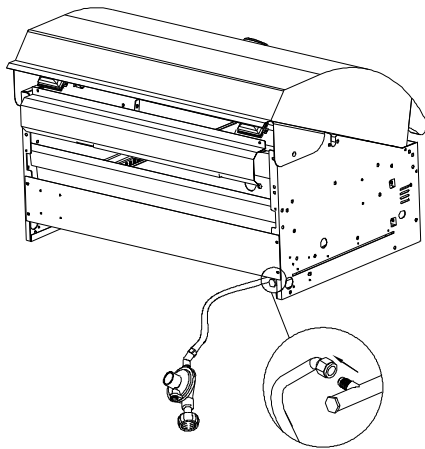

Figure 1
- ☐ Remove the LP Regulator from the Manifold as shown in Figure 1.